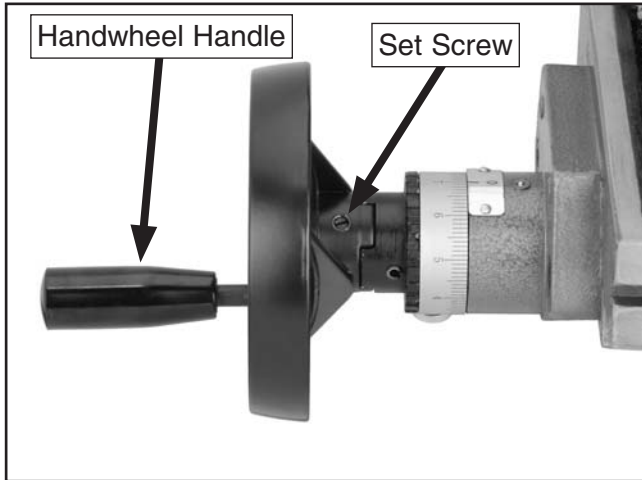

Figure 12. Leadscrew handwheel properly installed.
6. Slide the handwheels onto the longitudinal and cross leadscrews, then secure them in place by tightening the set screws (see **Figure 12**).